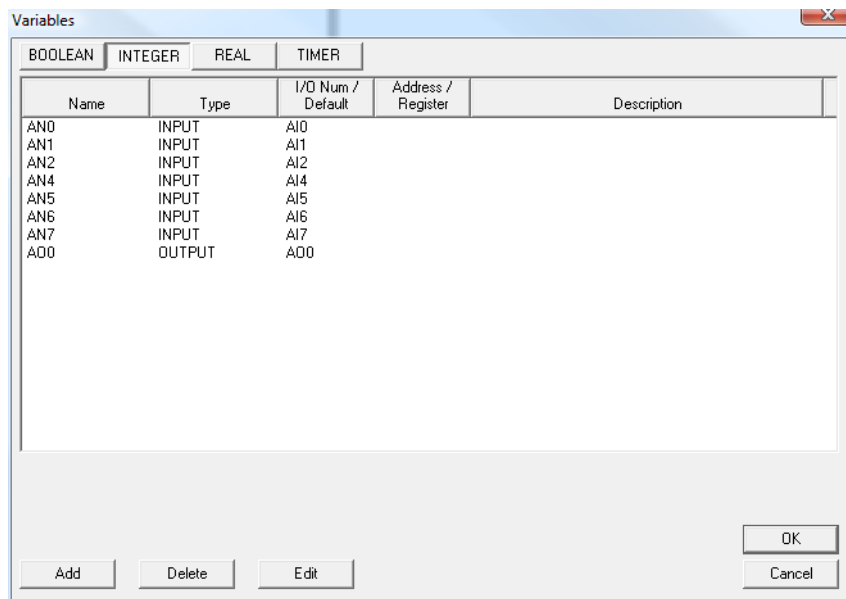

Figure 2-12 - Variables - Integer Tab
1. To create an I/O OptiCAN register variable for inputs, in EZ LADDER Toolkit, click the **EDIT VARS** button on the toolbar at the top of the workspace. The *Variables* window will open. Click the **INTEGER** tab. Refer to Figure 2-12.
1. To create an I/O OptiCAN register variable for outputs, in EZ LADDER Toolkit, click the **EDIT VARS** button on the toolbar at the top of the workspace. The *Variables* window will open. Click the **INTEGER** tab. Refer to Figure 2-12.